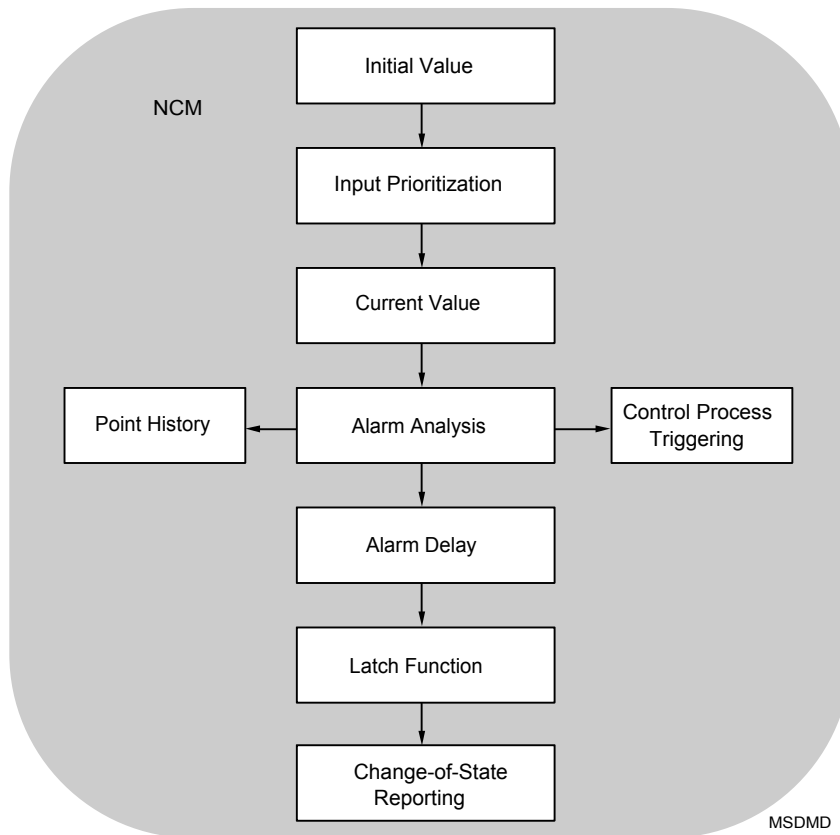

Figure 20: MSD General Model
**Details** Figure 20 shows a general model of how the MSD object operates. For more information, see the *Metasys European Technical Notes, Software Data Sheets, MSD Engineering*.